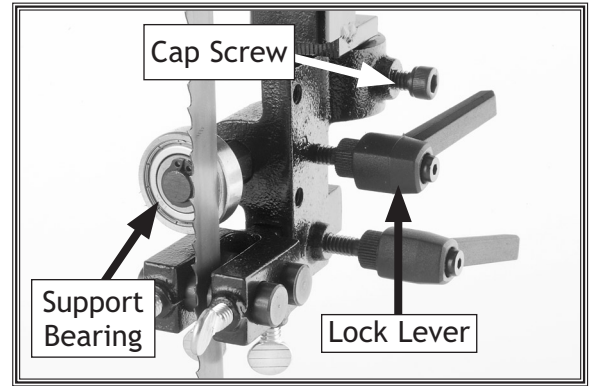

Figure 24. Support bearing controls.
3. Familiarize yourself with the support bearing controls shown in **Figure 24**.
5. Loosen the cap screw shown in **Figure 24**.